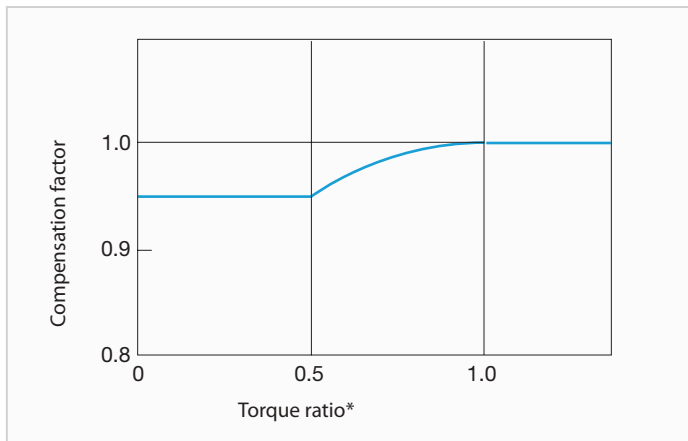

Fig. T3 Compensation curve for efficiency
1. The efficiency changes if the load torque does not match the nominal torque. Check the compensation factor in the diagram Fig. T3.
2. When the torque ratio is over 1.0, the compensation factor for efficiency is 1.0 (diagram Fig. T3).